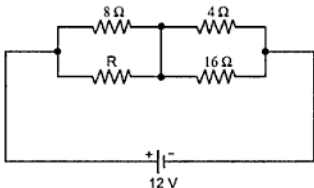

Fig. 1.82
23. If the total power dissipated in the circuit shown in the Fig. 1.82 is 18 watts, find the value of R and current through it. (Ans. : 12 Ω , 0.6 A)